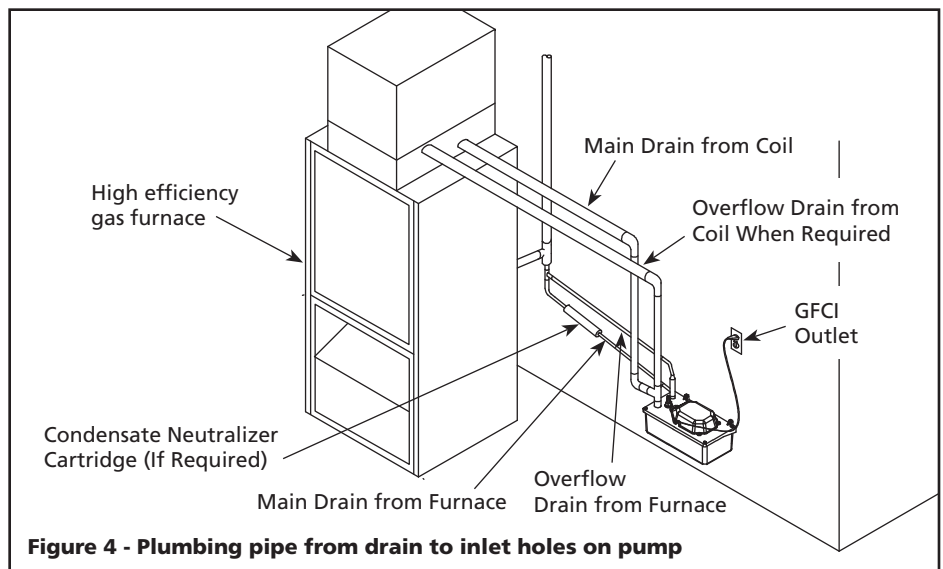

Figure 4 - Plumbing pipe from drain to inlet holes on pump
- B. Plumb flexible tube or pipe from the condensate drain, and from the furnace drain (if applicable), to the inlet holes on the pump. Refer to Figure 4.